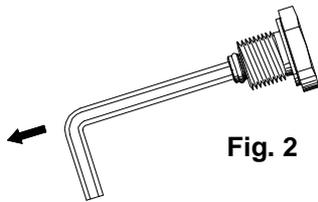

Fig. 2
- b) Located inside the return plug is the by-pass plug. Remove it with a 4 mm Allen wrench (Fig.2).